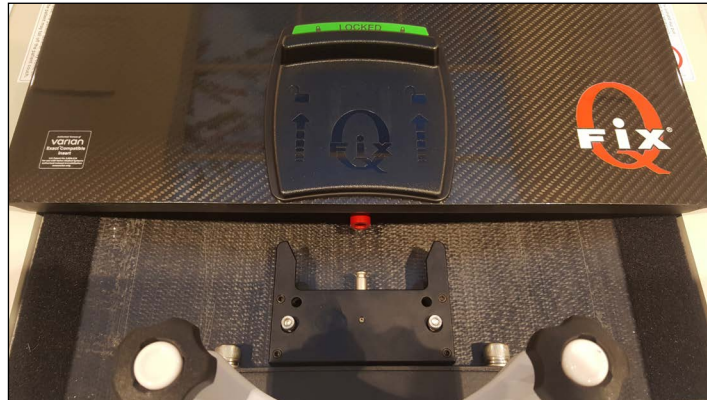

Fig. 24
3. Slide the CT Overlay toward the CT cradle foot end until the Red Alignment Pin is close to the metal pin on the Foot End Mounting Assembly (Fig. 24).